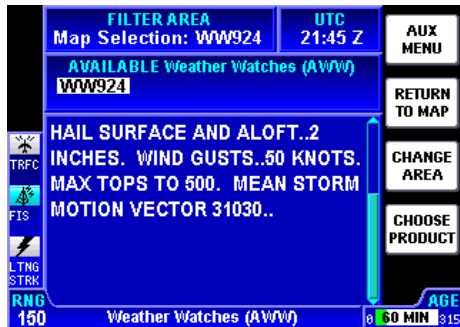

Figure 2-49
5. Press the **MORE INFO** Softkey to display the Text Weather Watch Page for the displayed location as in Figure 2-49.